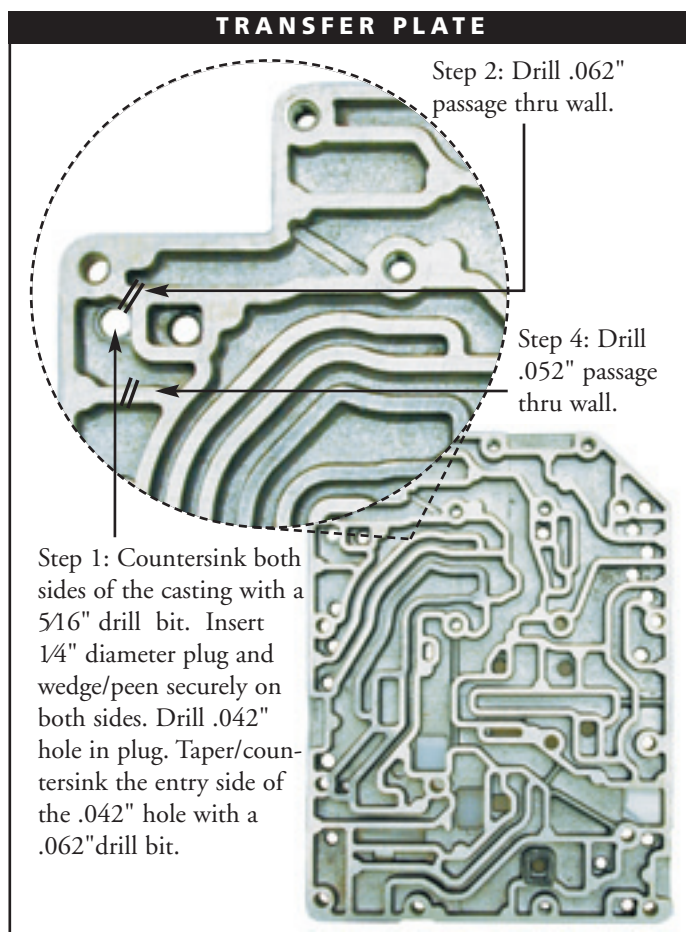

Figure 1
1. Lightly countersink (see Figure 1) the CCX (regulated converter charge) hole approximately  $\frac{1}{2}$ " deep on both sides of the transfer plate with a  $\frac{5}{16}$ " drill bit. This will create a shoulder to wedge the aluminum plug onto. Insert the  $\frac{1}{4}$ " diameter x .225" long aluminum plug from this side of the plate and drive until mushroomed tightly. Verify case side of plate is flush, and stone or file if necessary. Drill a .042" orifice hole in this plug. Use a .062" drill bit to taper/countersink the entry side of the .042" hole.
2. On the transfer plate (see Figure 1), drill a .062" hole through the indicated wall. This will connect the line pressure circuit to the lube circuits.
4. On the transfer plate (see Figure 1), drill a .052" hole through the indicated wall. This will connect the differential and front lube circuits.